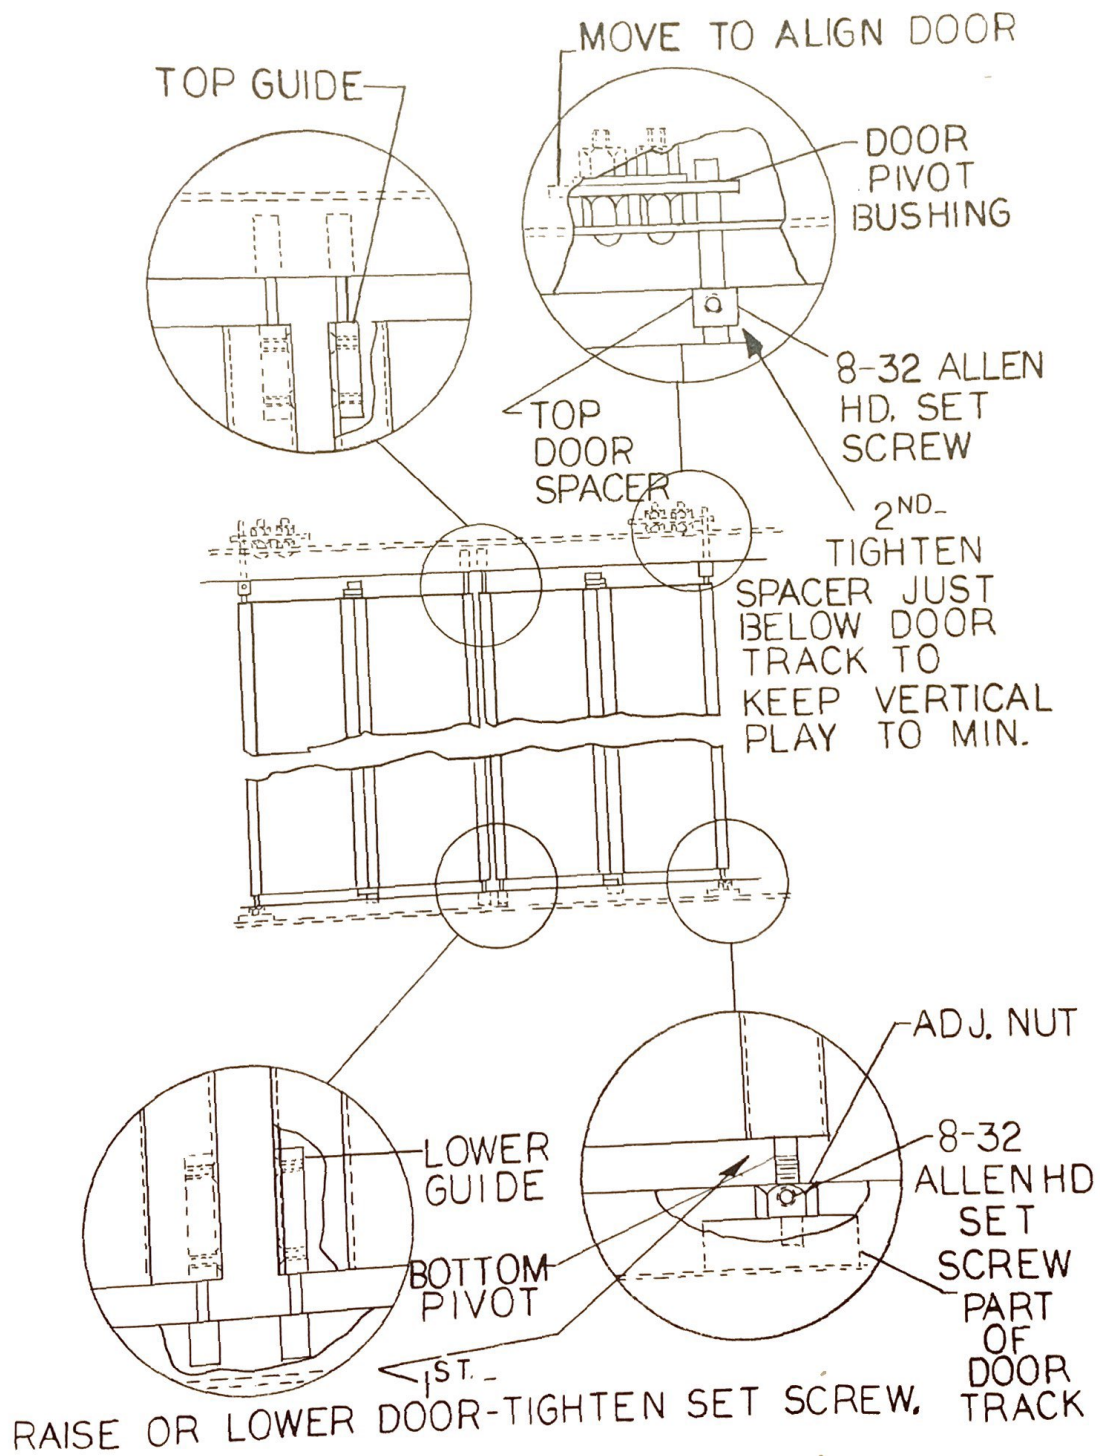

FIG. 18
8. Car doors may now be installed. This is most easily done by inserting door top pivot into cutout in ceiling corners and drop door bottom pivot in place in door track. Install top door pivot bushing from above car top. (These may be moved for better door fitting and operation.) Loosen adjust nut on bottom pivot (8-32 Allen Hd. set screw) and turn nut to raise or lower door. Tighten nut. Raise top pivot spacer and tighten. See Fig. 18. Now the center guide post may be installed.